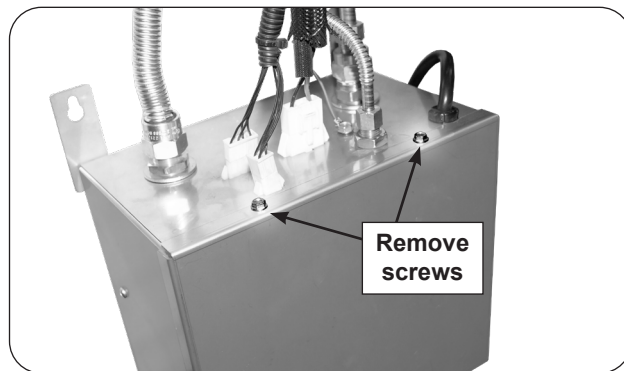

Fig. 38-1 Remove screws
2. Remove the two 1/4" hex screws found on top of the control box (see Fig. 38-1).